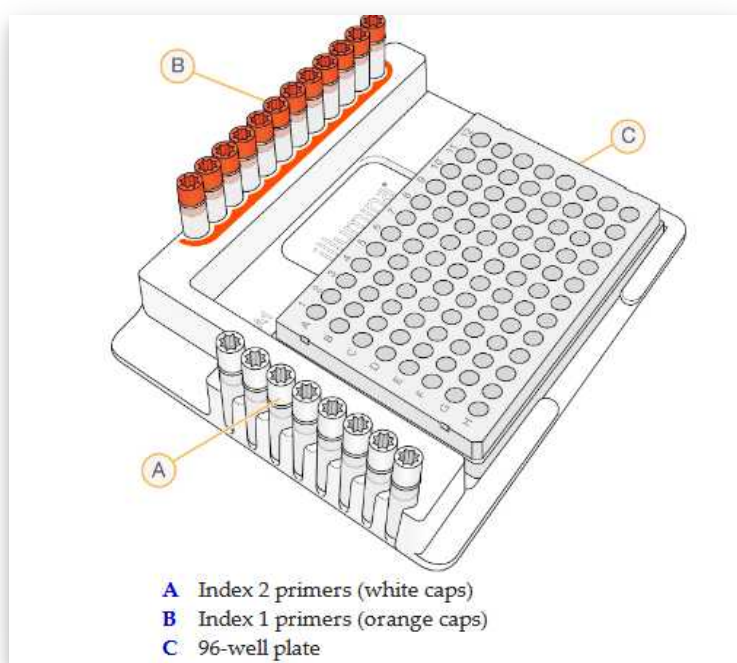

Figure 12: Index Plate Fixture.
1. Place a new the 96-well PCR plate in the rack as **Figure 12**.